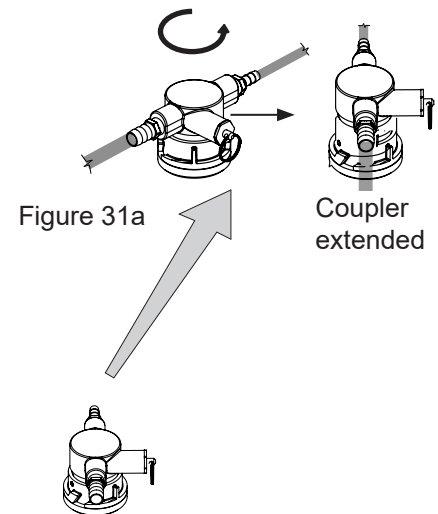

Figure 31a
9. Hooking up the keg coupler to the keg: Verify the coupler is in the "OFF" position (see Figure 31a). Align the lugs on the keg with the corresponding openings on the keg coupler and turn clockwise until the coupler stops (about 90°). Push down and twist the top of the coupler clockwise to allow gas to enter the keg.